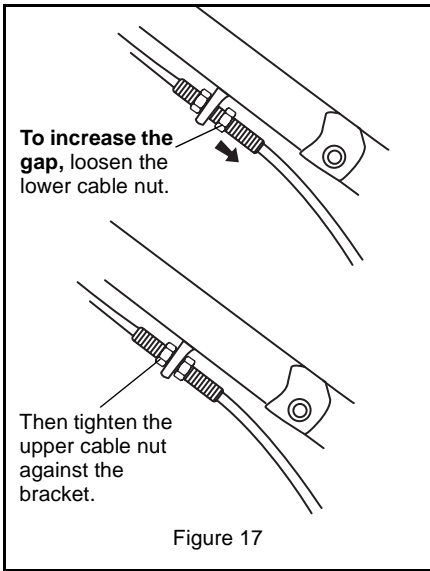

Figure 17
1. Loosen the lower cable nut on the wheel drive control cable, and then tighten the upper cable nut against the adjuster bracket. See Figure 17.